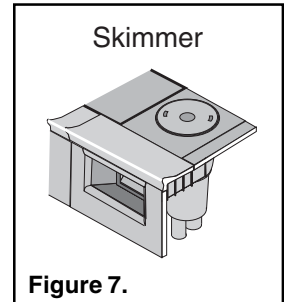
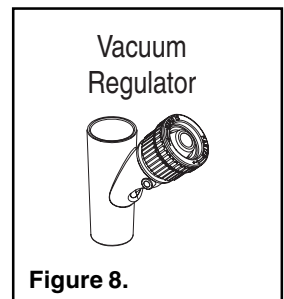

Figure 7.
Figure 8.
The advantage of this installation is its use of the vacuum regulator to balance the water flow between the pool's skimmer, (see Figure 7), and the SandShark™. The vacuum regulator, (see Figure 8), can be adjusted to changes in the amount of water flow to provide the SandShark™ with the power necessary to ensure proper cleaning performance, **and we strongly recommend the use of the vacuum regulator valve** for maximum safety and performance.
4. The vacuum regulator must be installed in conjunction with the reducer cone, (see Figures 8 and 9). The reducer cone is required to make most skimmer connections. It will keep the hose and vacuum regulator in place once the filter system is stopped.